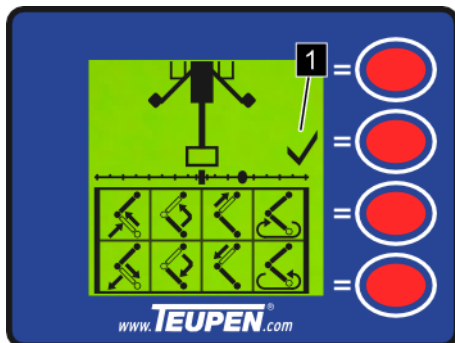

Fig. 134: Transport position
6. → Continue to swivel the platform in the direction of the transport position until the transport position is shown on display screen with a tick (Fig. 134/1).